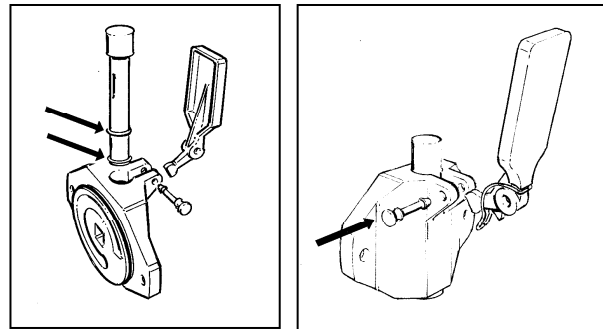

Fig. 17
- After installing the piston seals and lubricating them as necessary (fig. 17), insert the piston into its housing in the flange, mount the dispensing lever together with its spring and connect them with the fixing pin (fig. 17).